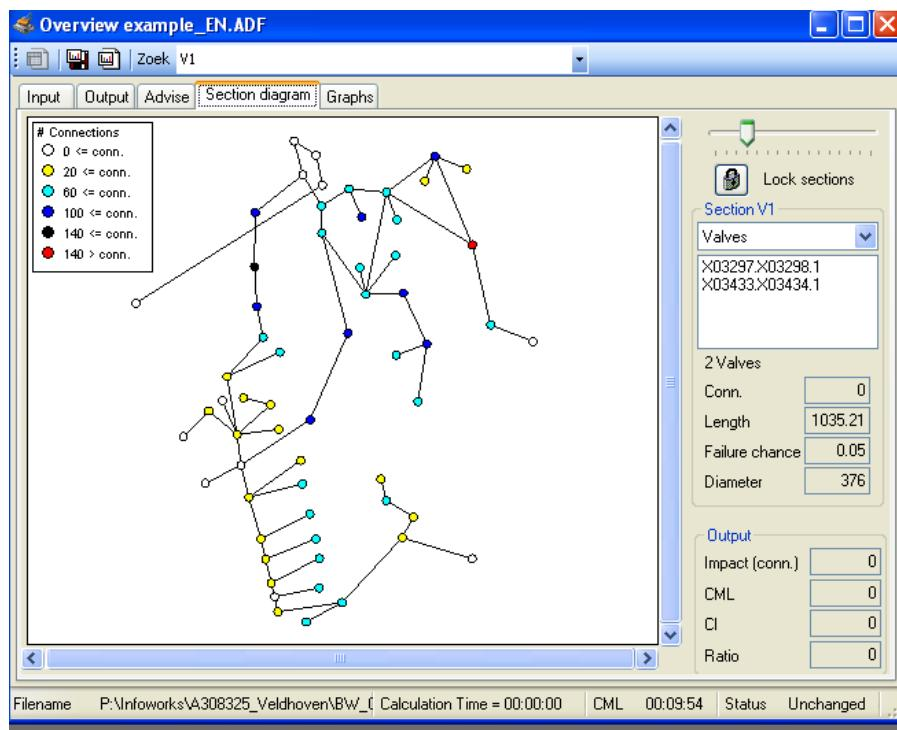
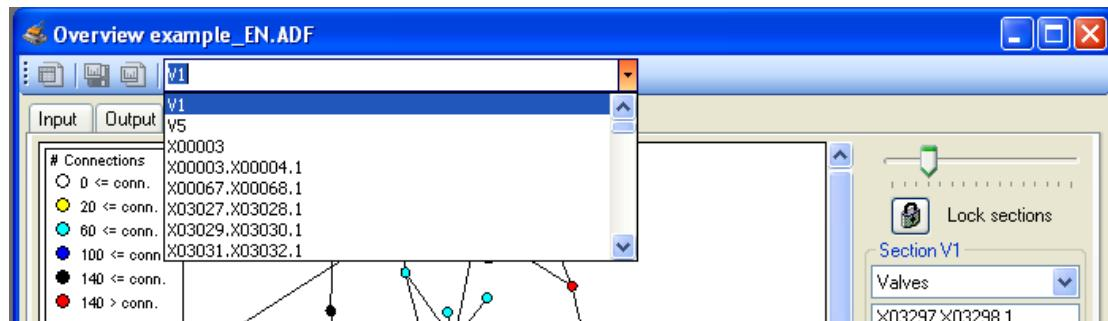

Figure 27 'Overview' tab 'Section diagram'.
Figure 28 The search field in the 'Section diagram' tab.
The 'Section diagram' tab (see Figure 27) shows the section diagram (assuming there are x and y coordinates) of the loaded distribution network. The sections are represented by colored nodes, the color indicating the number of connections in the section according to the color code in the legend. The valves are represented by connecting lines. To the right of the section diagram are shown the input information and calculation results for a selected valve or section.
- Selecting in the map: valves and sections are selected by clicking on them (part '1' in Figure 27);
- Searching in the button bar (part '2' in Figure 27): this bar has a search field (see Figure 28) which allows for the quick localisation of valves and sections. When one starts entering the name of the section/valve one is searching for, a drop-down list appears with the first ten valves or sections that meet the search criteria. The name can then be selected from this list. The complete name can also be entered and then 'Enter' pressed.
Dimensioning or moving sections (part '3' in Figure 27)
Input information (part '4' in Figure 27)
Calculation results (part '5' in Figure 27)